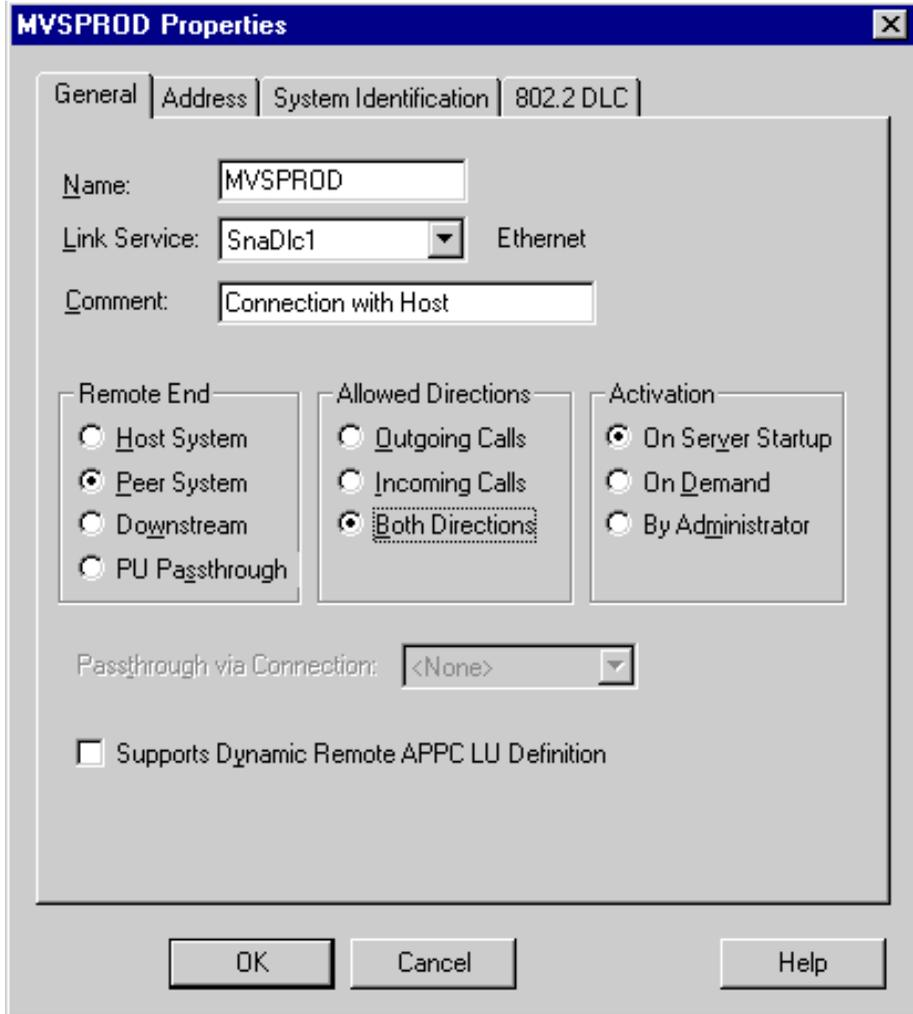

Figure 52. Configuring connection properties: general page
- 2 On the General page, enter a connection name in the **Connection name** field, as shown in Figure 52.
- 5 Select the option button in the following group boxes, as shown in Figure 52: